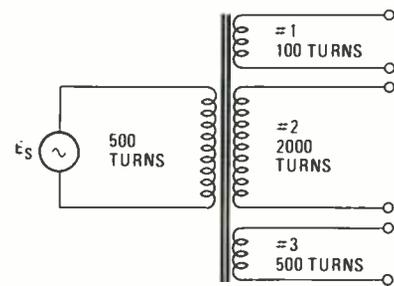

Fig. 18—A transformer can provide more than one output voltage by using multiple secondary windings. Each winding =
57. (480) In that example, the turns ratio is $200/50 = 4/1$ or 4 to 1. That multiplies the primary voltage by 4. Therefore, the induced secondary voltage is 480 volts. With a turns ratio greater than one, the transformer steps up the voltage. In other words, the output voltage is higher than the input voltage by a factor equal to the turns ratio. *If $N_p = 300$, $N_s = 100$, and $E_p = 120$, then $E_s =$ _____ volts.*
58. (40) The turns ratio in that example is $100/300 = .333$ or 1 to 3. In that case, the secondary voltage is simply one-third of the primary voltage or $120/3 = 40$ volts. Here, the transformer is used to step down the voltage. One of the most common applications of a transformer is to increase or decrease the voltage level of an AC signal. *When a step-up transformer is used, the secondary voltage is _____ than the primary voltage.*
59. (higher) Transformers may have two or more secondary windings as shown in Fig. 18. Each secondary winding has its own turns ratio with the primary. Both step-ups and step-downs can be obtained on the same transformer. *In Fig. 18, the output voltage from the secondary winding #3*